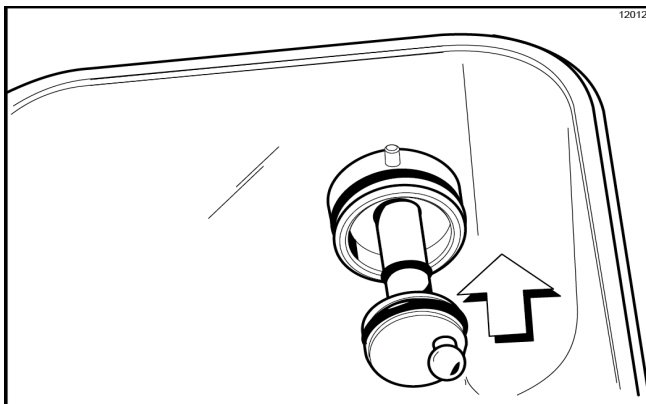

Figure-156
14. Install the hex end of the driveshaft into the drive hub at the rear wall of the mix hopper. (See Figure-156.)